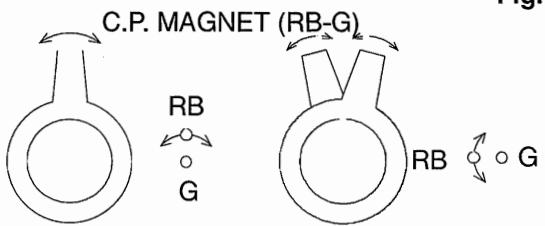

Fig. 7
3. Align red / blue with green dots at the center of the screen by rotating (RB-G) C.P. Magnet. (See Fig. 7)